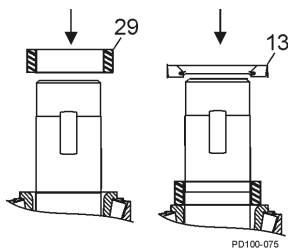

Figure 89 - Install Rear Seal
1. Install the gear spacers (Figure 89, item 29).
3. Install the oil seals with the spring facing out (Figure 89, item 13).